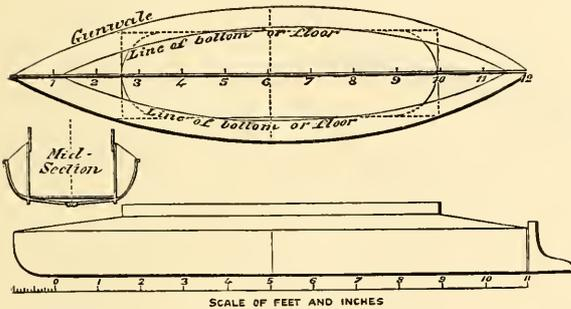

FIG. 248.
*Canvas Coracle.*—Such a boat (Fig. 248) was built by Capt. J. Richards, R.N., in 1878, for the river Avon, 12ft. long, 3ft. wide, and 15in. in depth. She has a frame of American elm, fastened with rove and clenched copper nails and wire; her floor is nearly flat, formed of  $\frac{3}{4}$  in. white pine wood, lined inside with sheets of cork to fill up the spaces between the timbers,